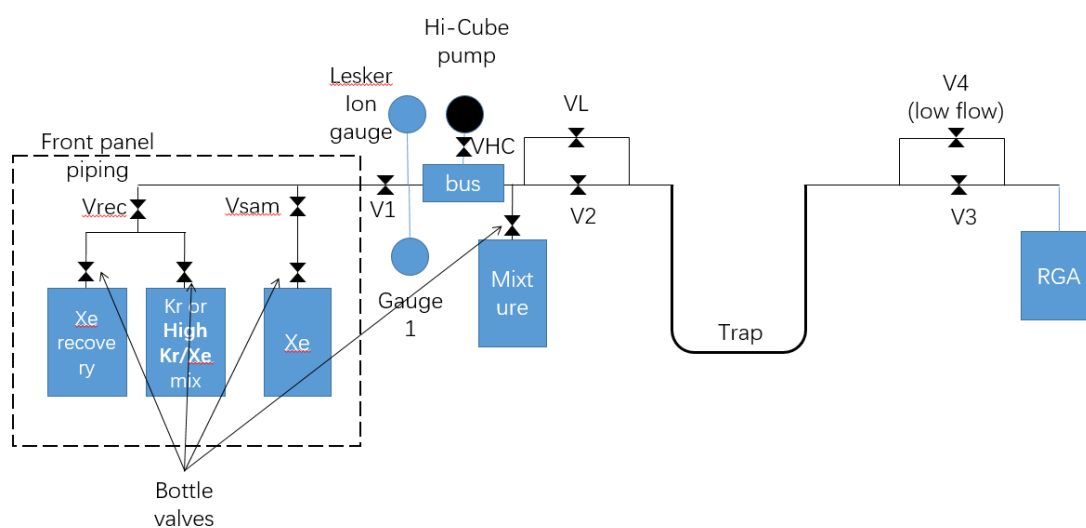

Fig. 1 Schema of the Xe purity system. V1 closes the connection between the front piping and the bus.
The valve nomenclature used below is displayed in Fig. 1. For the physical locations, you can refer to Figs 3-5 of Ref (1). V1 is usually left open, unless it is necessary to completely isolate the main system from the front piping. If V1 is closed, you won't be able to inject gas into the system. Vsam is the sampling valve, **not to be confused** with the sample bottle valve. Fig 1 should make this clear. Valves on the bottles do not have specific names.
2. Check the configuration: the valve of the HiCube pump (VHC in the schema of Fig. 1) and valves Vsam, Vrec, V1, V3 and V4 should be open, while V2 and VL (leak vale) should be closed, and the RGA off. The valves of any bottle that shouldn't be empty should be closed. If not, you have likely lost the bottle's content. Note: if Vsam was not open, you likely have air between the sample bottle valve and Vsam (in the elbow at the right of Vsam, see Fig. 3 of Ref. (1)). In this case: